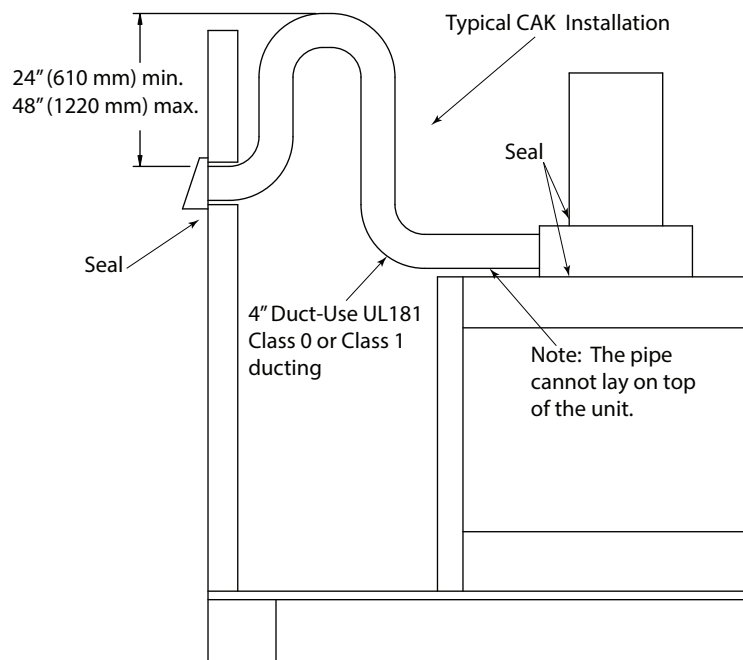

Figure 4 P Trap Installation Using Flex Pipe
- When using the chimney air kit (CAK) and the outside air kits, it is recommended that you install a P trap as shown in Figure 4 by bending the flex duct, or using 90° elbows if using rigid duct to help prevent air circulation when the fireplace is not in use. In colder climates, it is strongly recommended to use an insulated duct.